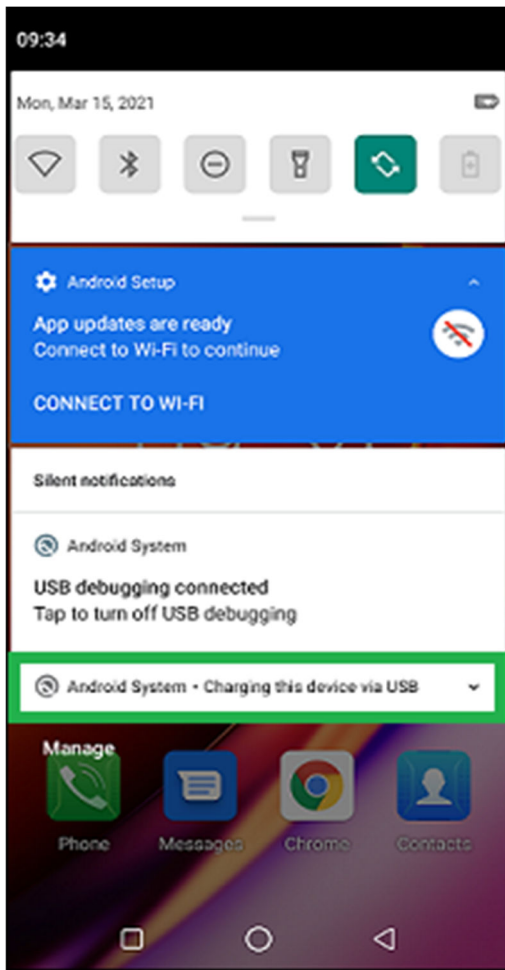

Figure 10 – Notification
4. Click on the item “Charging the device via USB”, Figure 10;